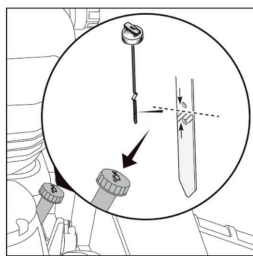

FIG. 11
- REMOVE THE ENGINE OIL DIPSTICK (A, FIG.11). CLEAN THE DIPSTICK, ENSURING THERE IS NO OIL.
- MAKE SURE THE OIL LEVEL IS NEAR THE MIDDLE OF THE FULL MARK ON THE DIPSTICK. (FIG.11).
- IF THE OIL LEVEL IS LOW, ADD OIL TO THE OIL FILL TUBE. (FIG. 11)